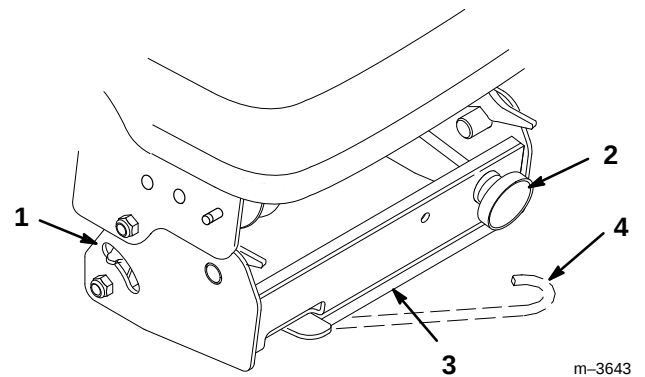

Figure 18
15. Release the belt tension release arm of the pulley box housing and swing it out toward you (Fig. 18).
- If the tension indicators are not in the same position on both the left and right sides, release the belt tension, turn the adjustment knob and repeat steps A and B until the indicators move to the same position (Fig. 18).
- Once the indicators are in the same position on both sides, swing the tension release arm into the pulley box by moving it into the position shown in Figure 18.
4. Release the belt tension release arm (Fig. 18), then remove the PTO belt from its position around the PTO pulley (Fig. 19). Additional belt slack can be obtained (if needed) by turning the belt tension adjustment knob.